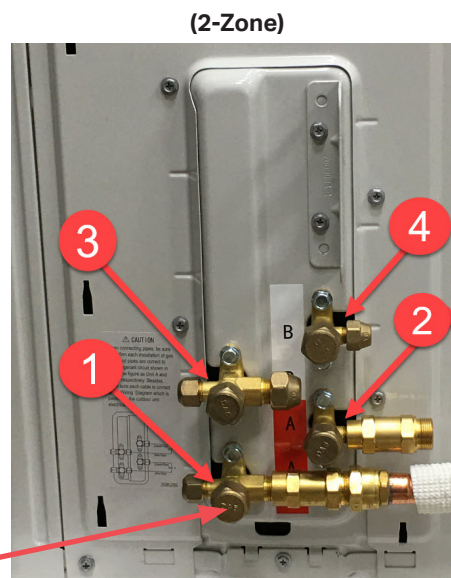

Figure 7.4
7. Remove the caps on ALL valves using an adjustable wrench. Using the 5mm Allen key, place key inside of the bottom and turn counter-clockwise slowly until you reach a stop. Open valves in order as per figure 7.4. Then screw the cap back on the top of the valve and tighten to ensure a proper seal. Repeat the same procedure for the rest of the zones.